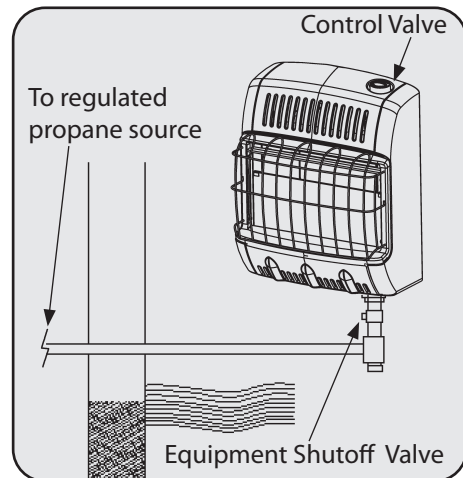

Figure 13
3. Check all joints from the propane/LP supply valve to equipment shutoff valve. See Figure 13. Apply mixture of liquid soap and water to gas joints. Bubbles forming show a leak.
5. Check all joints from equipment shutoff valve to control valve. See Figure 13. Apply mixture of liquid soap and water to gas joints. Bubbles forming show a leak.